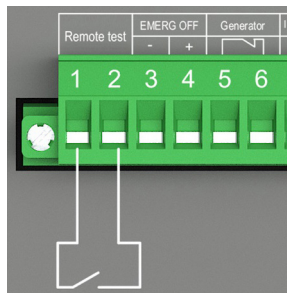

Figure 7. Remote test connection in OTM\_C\_21D
1. Connect to the remote test signal according to Figure 7.